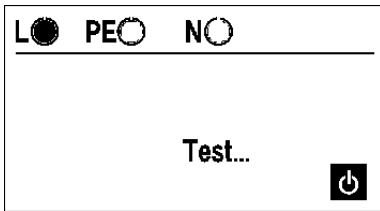

Figure 5.6.7: Test procedure running
- Briefly press the "Start/On" key (22), the test is started. During the running test procedure the message 'Test...' (11) is displayed, please refer to Figure 5.6.7.